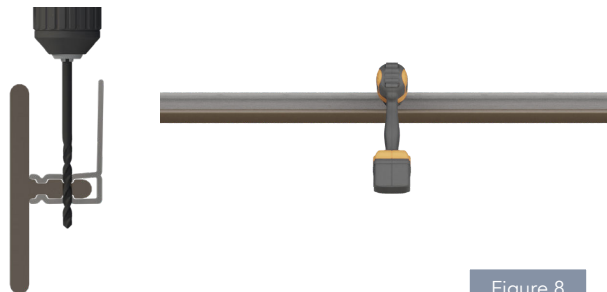

Figure 8
- For additional water management, you can add weep holes by drilling  $\frac{3}{16}$ "– $\frac{1}{8}$ " holes along the inside channel of the "T"-Moulding every 24"–36" (Figure 8).